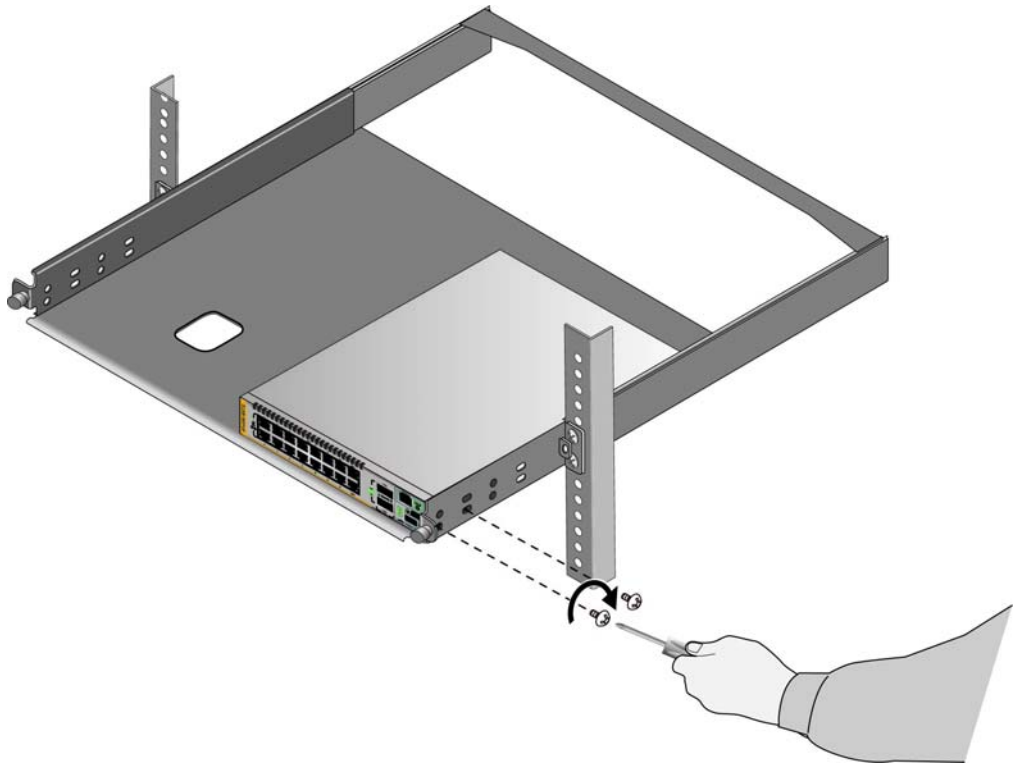

Figure 30. Securing the Switch to the AT-RKMT-J15 Bracket
8. Install two M4x6mm screws included with the switch to secure the switch to the bracket. Refer to Figure 30.